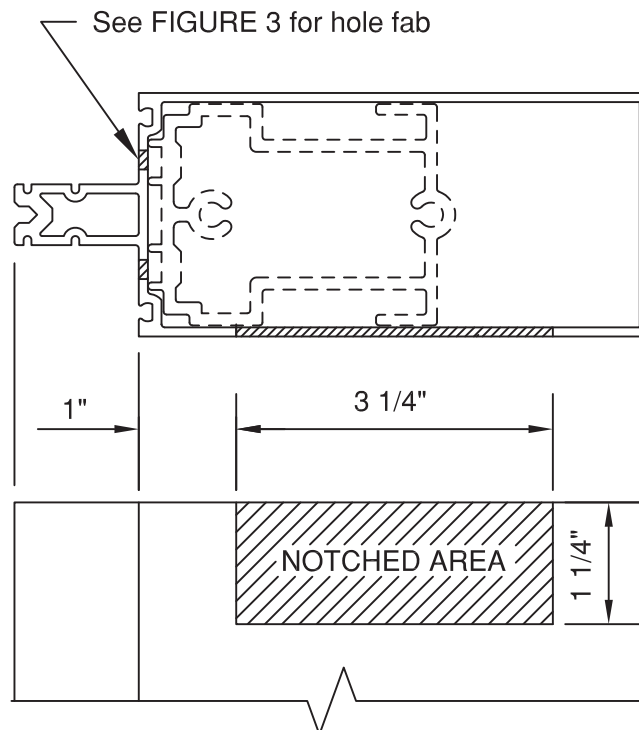

Figure 6
NOTE: If roll-over horizontals are used, all vertical mullions can be installed first. If tubular horizontals are used, the wall must be stick erected. Last bay tubular horizontals must be notched. SEE FIGURE 6.
- NOTE: If roll-over horizontals are used, all vertical mullions can be installed first. If tubular horizontals are used, the wall must be stick erected. Last bay tubular horizontals must be notched. SEE FIGURE 6. Option: Use roll-over horizontals at last bay to avoid notch.**
- 2.1.11 Install lower verticals plumb and level, ensuring proper spacing out from floor slab or beam. Place shims under vertical mullion at sill to evenly distribute deadload from wall. **NOTE: If roll-over horizontals are used, all vertical mullions can be installed first. If tubular horizontals are used, the wall must be stick erected. Last bay tubular horizontals must be notched. SEE FIGURE 6. Option: Use roll-over horizontals at last bay to avoid notch.**